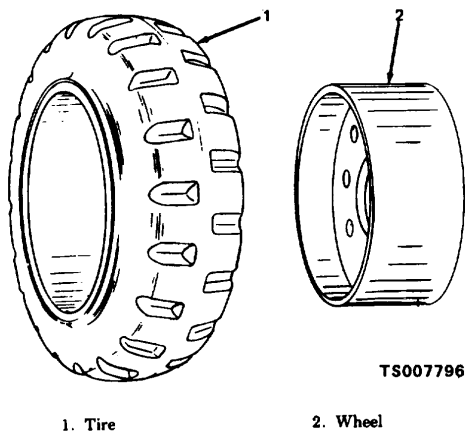

Figure 10-1. Wheel and Tire, Exploded View.
b. Refer to figure 10-1 and press the tires (1) from the wheels (2).
a. Refer to figure 10-1 and press the tire (1) onto the wheel (2).